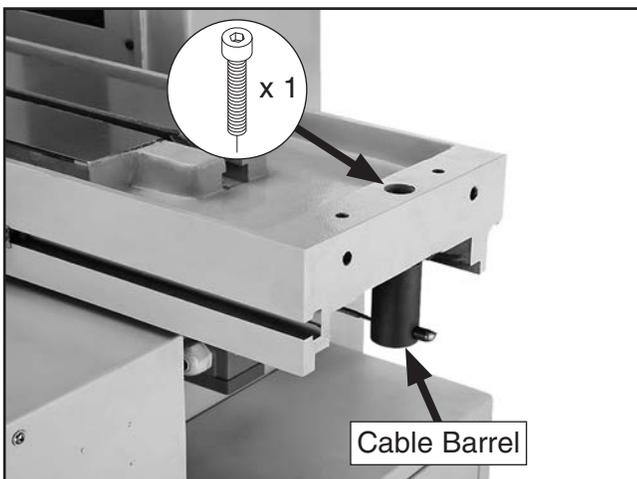

Figure 17. Cable barrel attached.
10. Feed table cable under table so that attached cable barrel is on the right of machine, as shown in **Figure 17**.